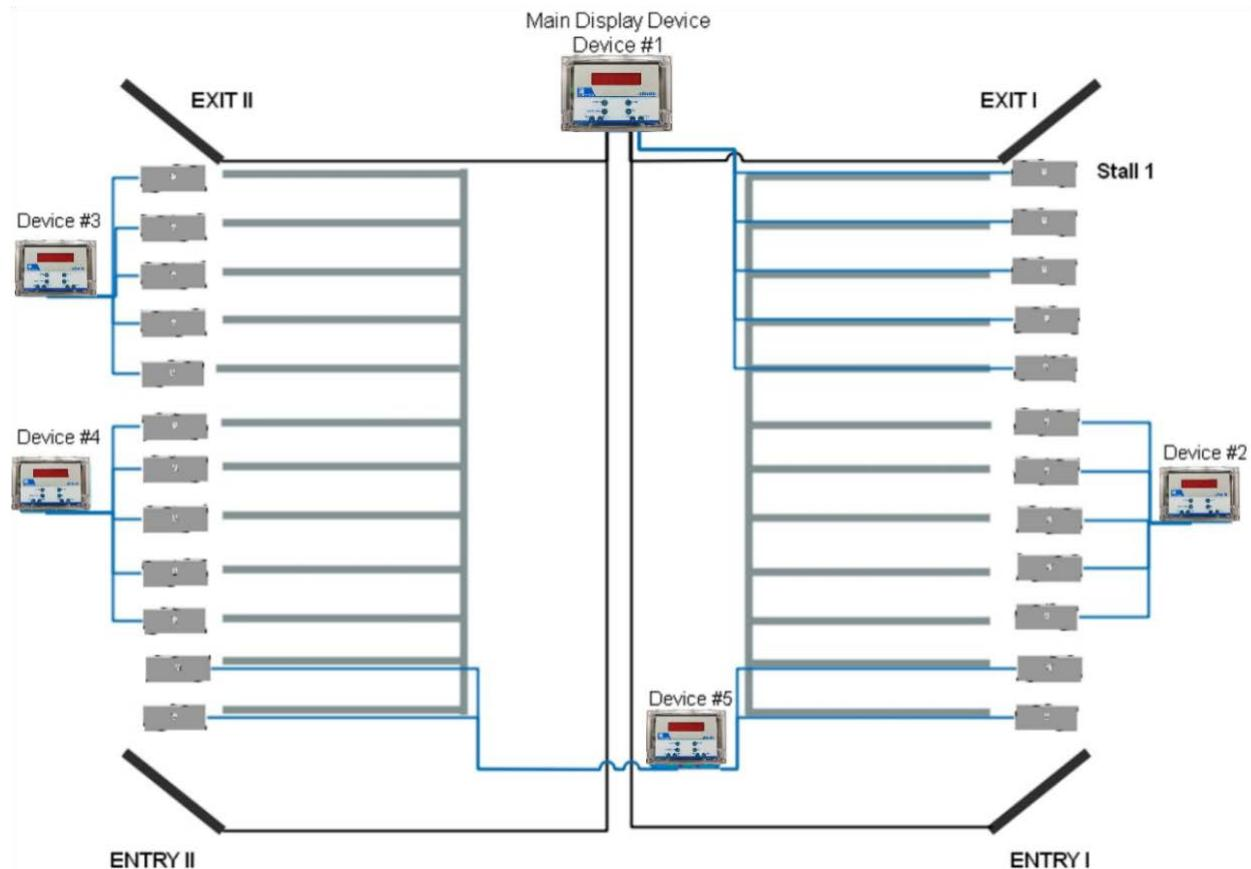

Figure 3 - Default Device Addressing of a 2X12 Parallel/HB Parlor
**Example 1 Layout:** Figure 3 shows the default system layout for a 2X12 Parallel parlor, where the number of stalls does not divide equally into groups of 5. The excess stalls on each side of the parlor are connected by default to a common device for both sides at the end of the parlor. This device is addressed as the last device in the parlor.